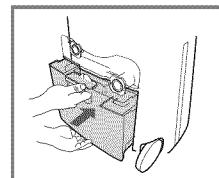

Fig.3
4. Using both hands, insert the top edge of the filter into the slot below the side grill and slide into place. (Fig.3) Snap the bottom tab into the closed position.